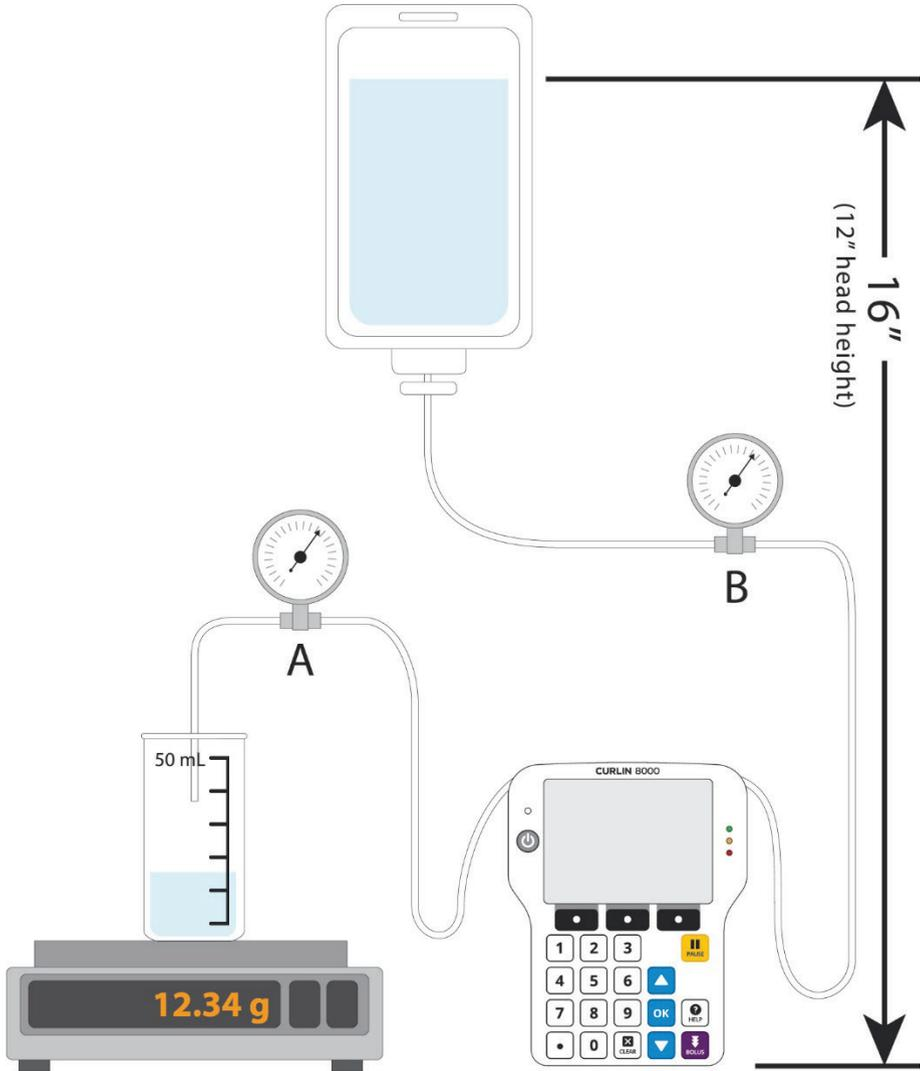

Figure 3-1: Test Setup
Pressure gauge(s)	+/- 1%, -500 mmHg to 2500 mmHg (minimum) Although two pressure gauges are ideal, a single pressure gauge can be used in these tests by moving the pressure gauge to the appropriate stopcock for a given test (Figure 3-1, location A or B).
All verification tests use the pump test loop tubing and the setup configuration shown in Figure 3-1.
To perform these tests you must have the equipment listed in “Test Equipment Requirements”, p. 9 and configure the test setup as depicted in Figure 3-1. After performing these tests a few times, it should take about 7 minutes to complete all verification tests.
1. Using Figure 3-1, set up your bag and the tubing. Prime out any air.
- Using Figure 3-1, set up your bag and the tubing. Prime out any air.